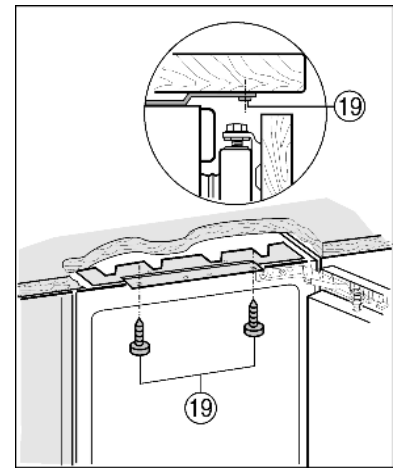

Fig. 15
- ▶ Secure the appliance at the top using long Spax screws Fig. 15 (19).